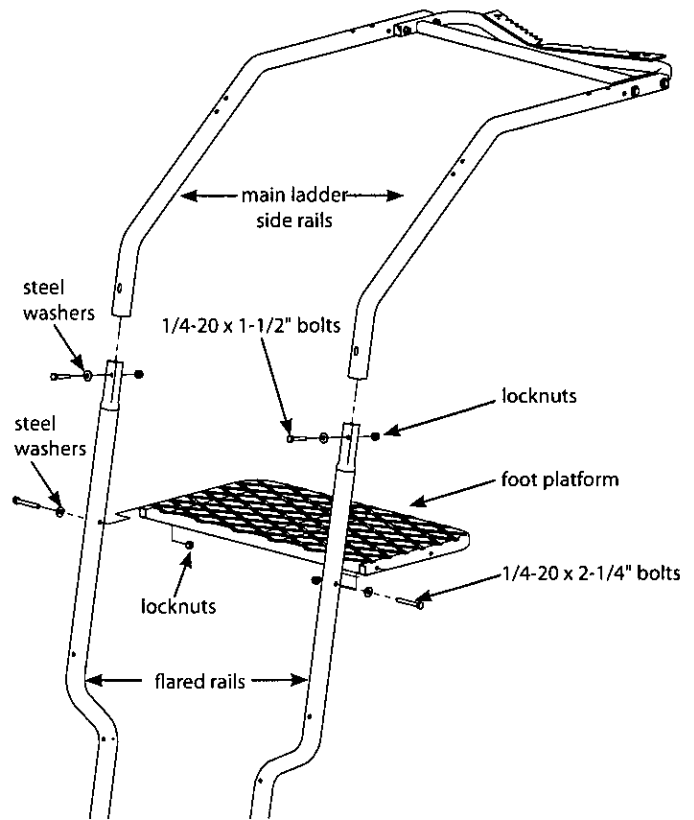

Figure 2
2. Insert the crimped end of two flared rails (10375) into the main side rails. Secure using (2) provided 1/4-20 x 1-1/2" bolts, locknuts and steel washers. **SEE FIGURE 2.** Pay special attention to orientation of flared rails.
3. Attach the foot platform (10370) to the inside of flared rails using (2) provided 1/4-20 x 2-1/4" bolts, locknuts and steel washers. **SEE FIGURE 2.**